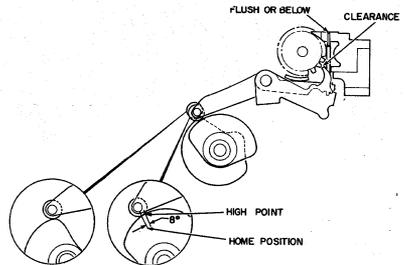

Figure 5
9. Loosen the setscrews on the interposer/feed cam cluster and, with the clutch latched, set the cluster so the feed cam roller is just onto the high dwell and the interposer cam roller is started down the very slight intermediate high dwell (Figure 5) and tighten the setscrews.
the control arm by a minimum of .050", insuring that the interposer bail will not operate when the reader magnet is energized at other times than the start of the cycle. Recheck the adjustments if the .050" minimum isn't obtained (Figure 5).